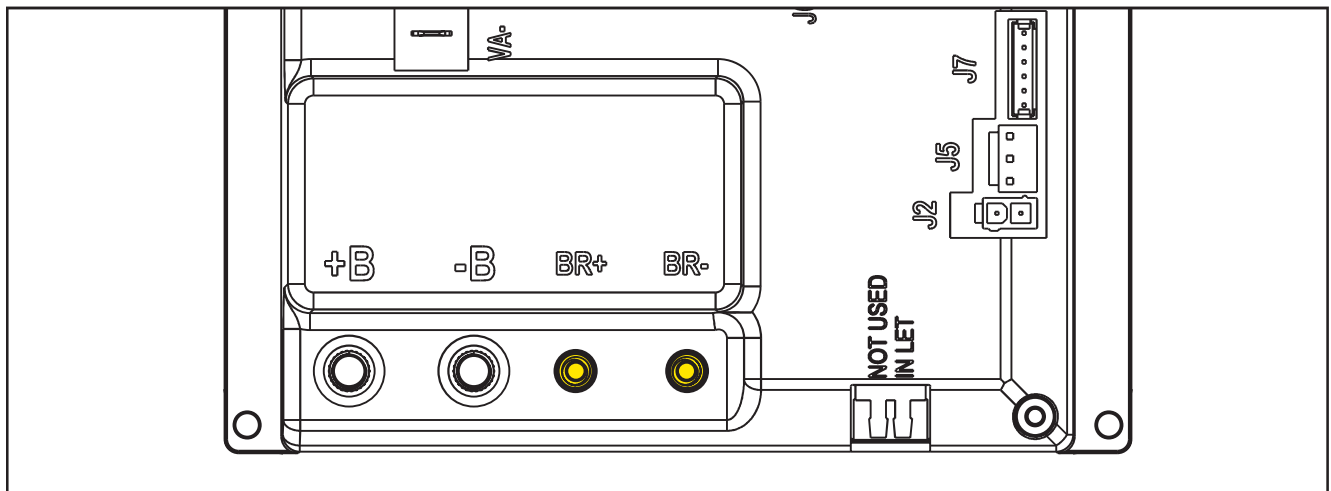

Figure 20:
**(Figure 20) Drive connections (2-way male faston T-connectors, 6.3x0.8 – spacing 7.4mm)**